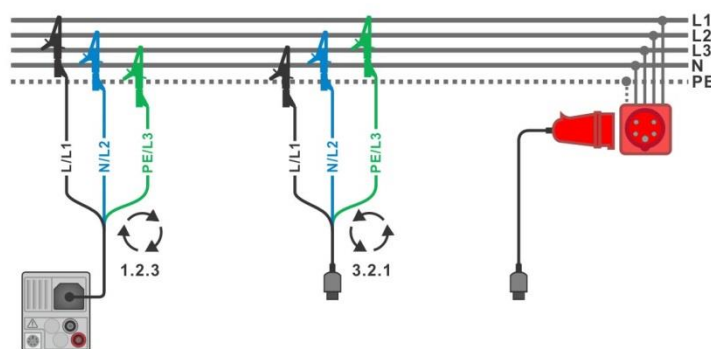
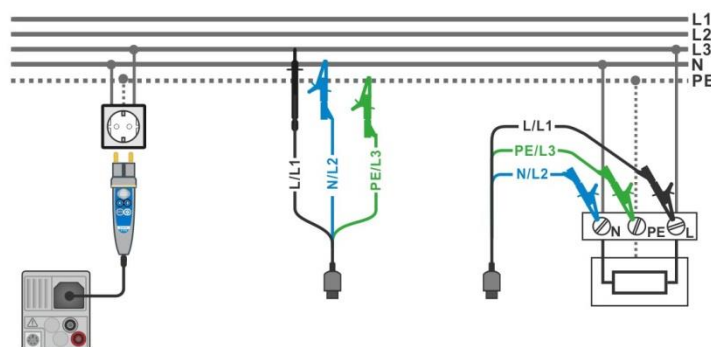

Figure 7.2: Connection of 3-wire test lead and optional adapter in three-phase system
Figure 7.3: Connection of Plug commander and 3-wire test lead in single-phase system
- Connect test leads to object under test (see **Figure 7.2** and **Figure 7.3**).